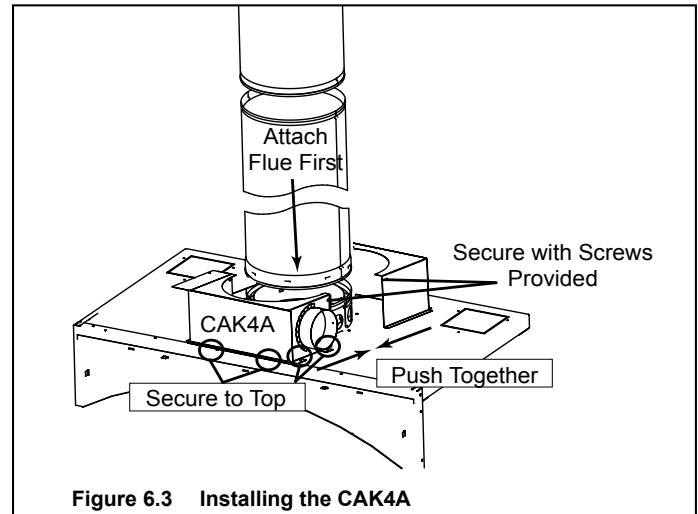

Figure 6.3 Installing the CAK4A
- Secure the CAK4A in place. See Figure 6.3.
- Seal around the kit at the flue and at the top of the can with high temp caulk with a minimum rating of 500 degrees. See Figure 6.3.